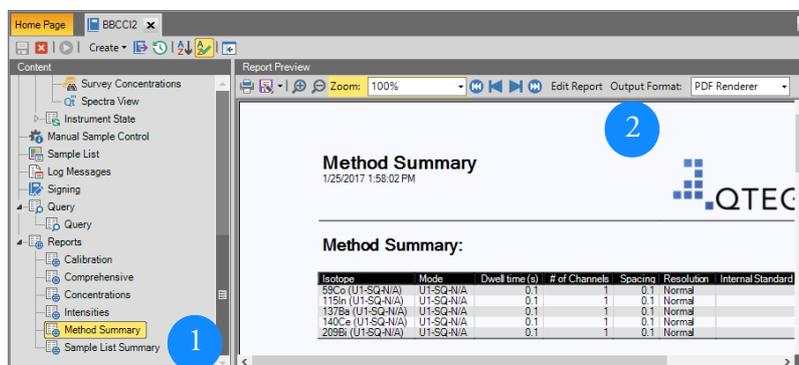

Figure 8-16. Opening a Report template for editing
3. Click the **Edit Report** button (2 in Figure 8-16).
3. Once the Report is displayed with data from the open LabBook, click the **Edit Report** button, see Figure 8-16.